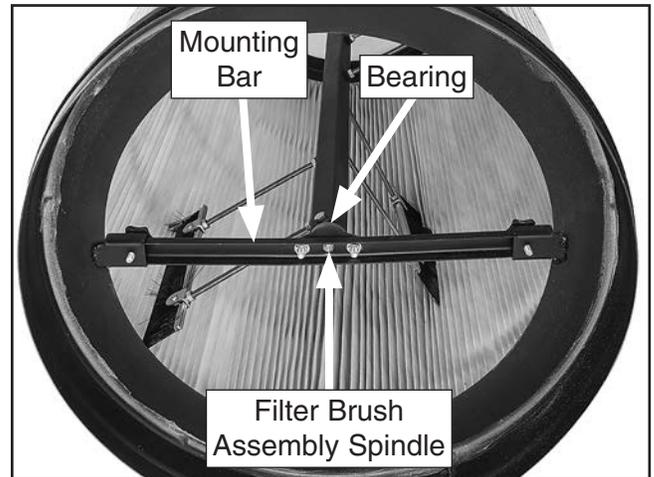

Figure 81. Alignment points for filter brush assembly and canister filter.
8. To install canister filter, lift it around filter brush assembly. While lifting canister filter, have assistant work below to align filter brush assembly spindle with bearing in mounting bar (see **Figure 81**).